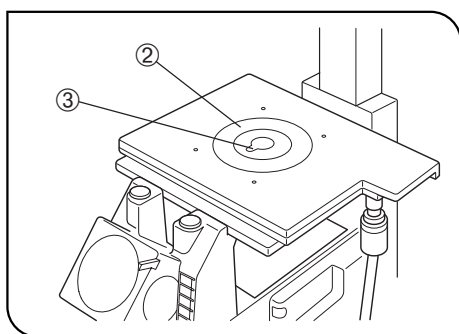

Fig. 85
3. Fit the stage center plate ② into the stage. (Fig. 85)
⊙ To facilitate confirmation of the objective front lens position and application of oil for oil immersion objectives, rotate the stage center plate so that the keyhole ③ will be facing the front. (Fig. 85)